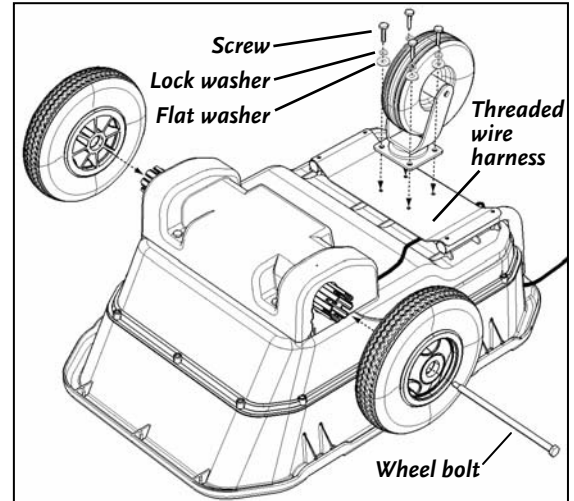
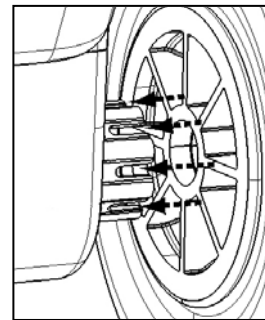

Figure 3. Aligning the wire harness and attaching the wheels.
Figure 4. Slide the front wheels into the finger slots on the drive train.
- Thread the wire harness underneath the rear mounting plate (**Figure 3**). This helps keep the wire harness from flopping around once you turn the Cart over. Threading the wire harness might prove a little tricky; just stick with it.
- Position the rear caster wheel over the receiving holes in the rear mounting plate on the lower bucket (**Figure 3**). The caster plate aligns lengthwise with the mounting plate. If the holes don't align, try twisting the plate a quarter turn.
- Open the clear hardware bag. First place a 1/4" lock washer on the 1/4" x 1" screw, then a 1/4" large flat washer. Insert a screw and washer through each of the holes on the caster plate (**Figure 3**).
- On each front wheel, find the side stamped **INSIDE** (look on the wheel's hub). Slide that side of the wheel onto the drivetrain. Align the finger slots on the drive train's hub with the spokes of the wheel rim (**Figure 4**). Insert a wheel bolt through the wheel bearing and into the drive train (**Figure 3**).